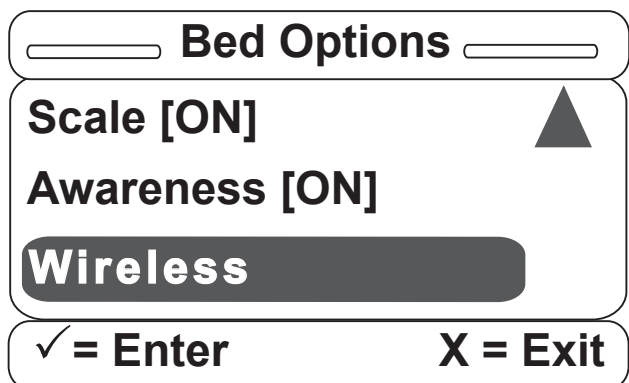

Figure S-18
18. Once the Awareness option is set, you will be returned to the Bed Options screen to set the next option, which is Wireless (Figure S-18). **Note that you can see the state of each option that you have previously set.**